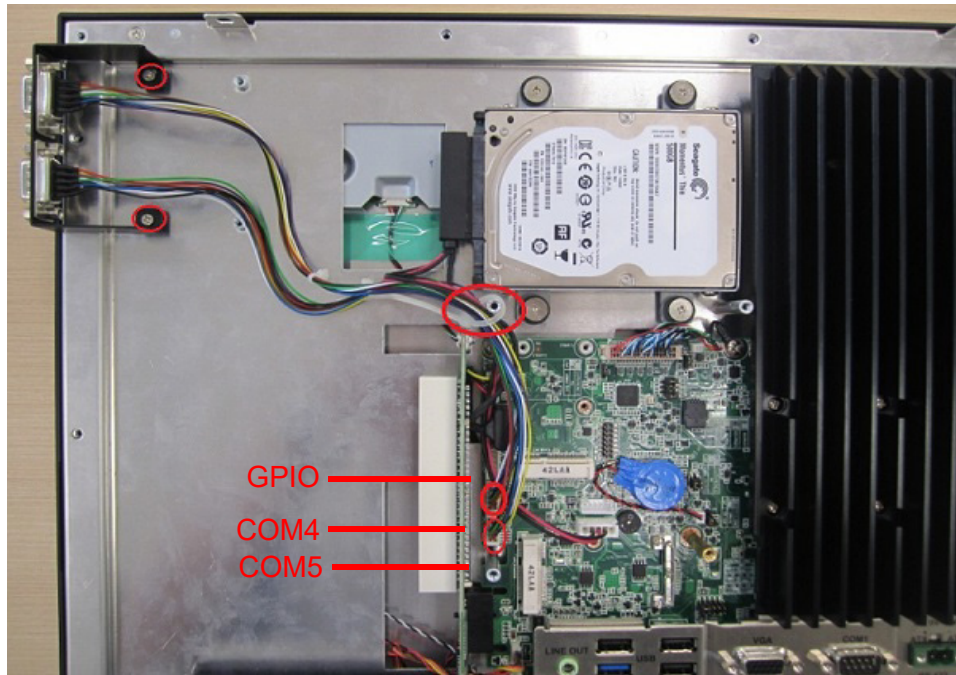

Figure 2.53
2. Retrieve the two COM connectors from the module case and affix them to the I/O shield at the side of the device using two screws. Then connect the COM cables to the mainboard and secure with a cable tie (see Fig. 2.53).